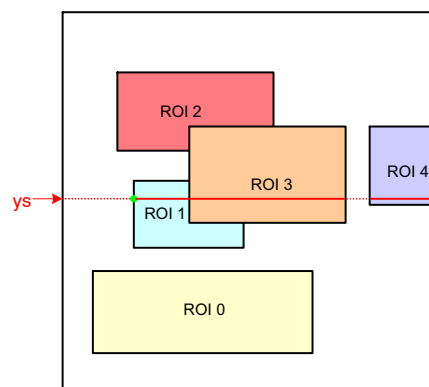

Figure 28. Scanning the Image Array with Five Windows
Figure 28 illustrates a practical example of a configuration with five windows. The current position of the
- The read pointer is not necessarily incremented by one, but depending on the configuration, it can jump in y-direction. In Figure 28, this is the case when reaching the end of ROI0 where the read pointer jumps to the y-start position of ROI1.